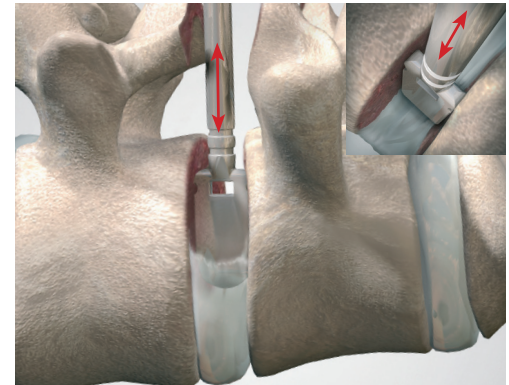

Figure 5
- ▲ Insert the sizer horizontally into the intervertebral space and rotate the instrument vertically to distract the space (Fig. 5). Sequentially insert the sizers increasing in height until the desired height is obtained.